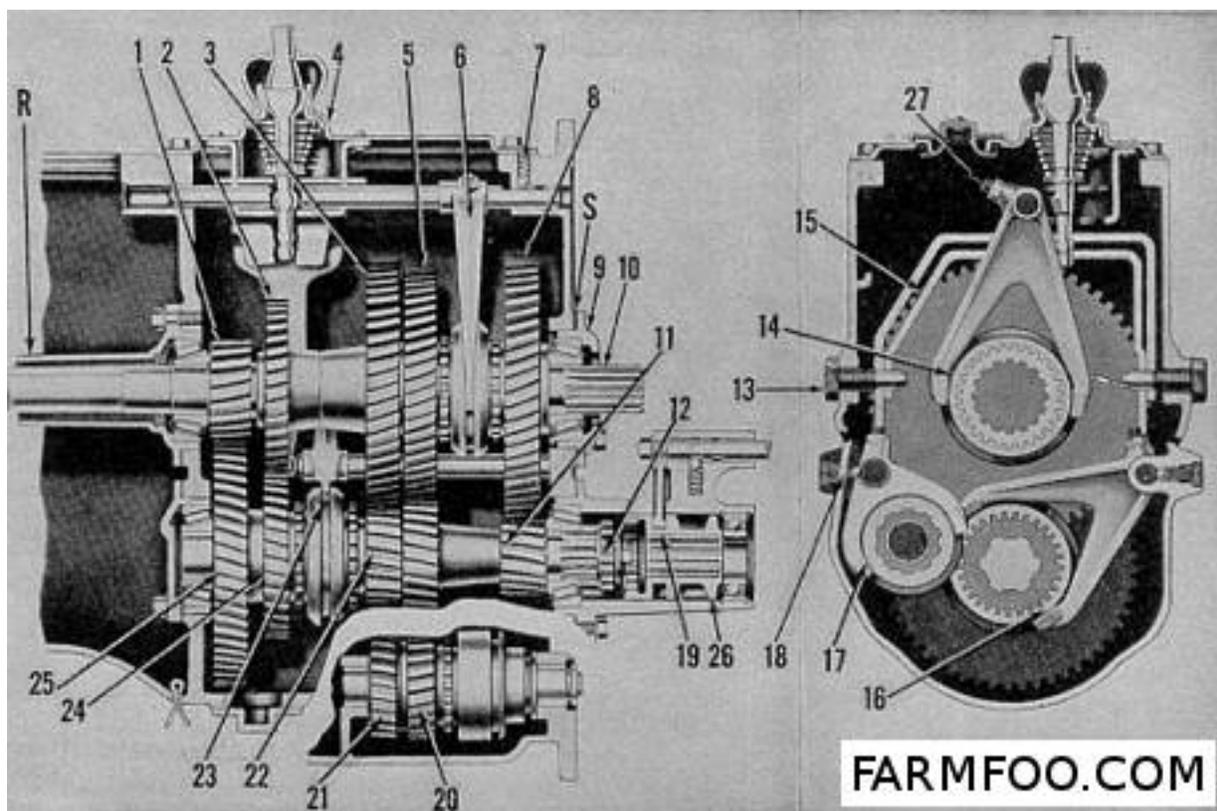
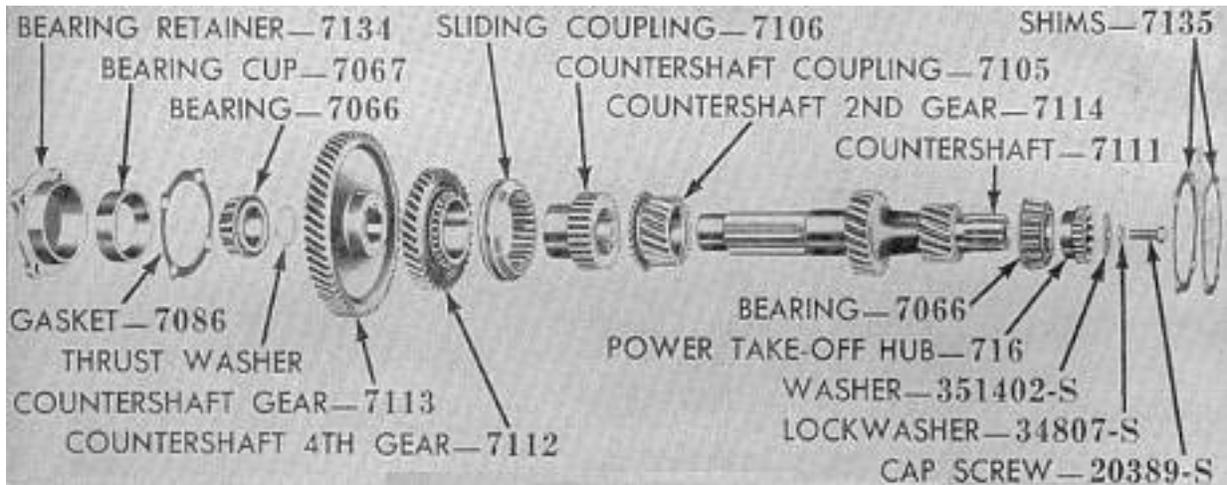

Fig. F057 - Transmission side and end views on model 8N tractor.
Fig. F062 - Countershaft, gears and components on model 8N. The PTO shifter unit is connected to the splined end of this shaft.
Rails and forks may be removed without performing a front section split, after transmission cover and gear shift lever assembly are off and rear section is separated from transmission case as outlined in paragraph 70A. Lift out top shifter rail spring and detent ball (7-Fig. F057) back off shifter fork lock screw (27) and remove shifter rail and fork. Remove shift plate pivot screws (13) from both sides of transmission housing and remove shift plates. Remove both lower shift rails and forks through top opening after detent springs and balls are out.
78. **MAINSHAFT.** After transmission is removed as outlined in paragraphs 70 and 70A and top shifter rail and fork are out, proceed as follows: Remove mainshaft rear bearing retainer (9-Fig. F057) and shims. Remove clutch shaft (main drive gear) and retainer (R) as a unit. Remove the reverse idler shaft shift rail, allowing fork to
79. **MAIN DRIVE GEAR (Clutch Shaft).** This gearshaft (1-Fig. F057) may be removed after transmission and engine are separated (as in paragraph 65). However, if bearing adjustment is required it will be necessary to perform the rear section split (as in paragraph 70A) to gain access to the mainshaft bearing shims (S) which control the adjustment. Remove gearshaft and retainer (R) as a unit. Renew worn or damaged parts and reassemble shaft and retainer carefully to prevent damage to the oil seal in the retainer. Lip of oil seal should face towards rear. After shaft is reinstalled check bearing adjustment and if necessary readjust as outlined in paragraph 78A.
80. **COUNTERSHAFT.** This shaft (11-Fig. F057) may be removed after mainshaft is out but before reverse idler gear is removed. Remove power take-off shifter and bearing support and remove shifter clutch hub from rear end of countershaft. Remove countershaft and gear assembly through cover opening in top of transmission housing. Renew work or damaged parts and reassemble as shown in Fig. F062. Reinstall the assembly and adjust bearings by means of shims (7135) to obtain zero end play or 15-30 inch pounds torque with shaft in motion and mainshaft removed from transmission. If tested with mainshaft installed, turning torque will be 30-60 inch pounds. Shaft should be rotated for checking bearing adjustment by inserting PTO shaft in shifter unit and engaging the jaw clutch.